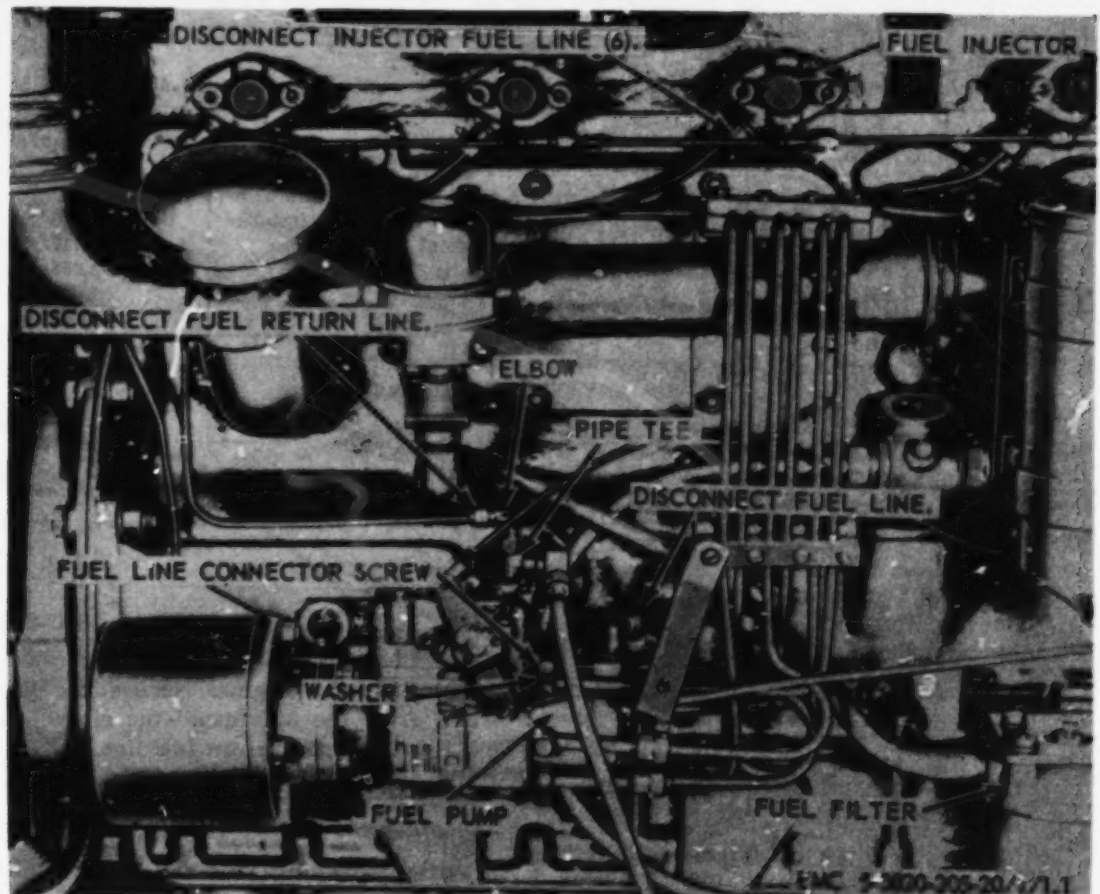

Figure 5. Fuel pump, filters, and lines.
- (1) Disconnect fuel line from filter at fuel pump end as instructed on figure 5.
- (2) Drain the fuel filter (TM 5-3820-205-10/1).
- (3) Flush fuel lines and filters by operating the primer pump (TM 5-3820-205-10/1).
- (4) Connect fuel line at fuel pump.
- (5) Disconnect fuel lines from injectors.
- (6) Operate starter for 30 seconds (TM 5-3820-205-10/1).
- (7) Connect fuel lines to injectors.
- (8) Disconnect the fuel return line, remove the elbow, and install a plug in the pipe tee.
(9) Start the engine (TM 5-3820-205-10/1).
(10) Stop the engine, remove the plug from the tee, install the elbow, and connect the return fuel line.